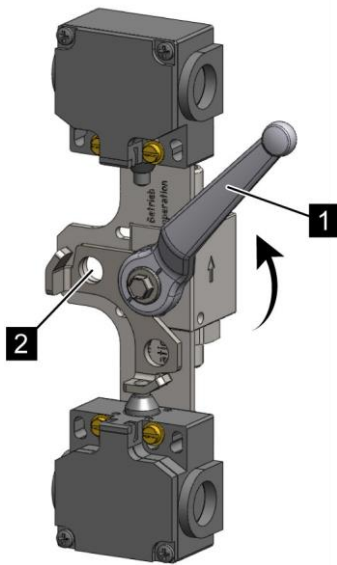

Fig. 179: Blocking device (optionally with 1 or 2 limit switches)
11. ➤ Switch the ball valve (Fig. 179/1) to the “ready for operation” position (Fig. 179/arrow).
12. ➤ Attach the padlock (Fig. 179/2).